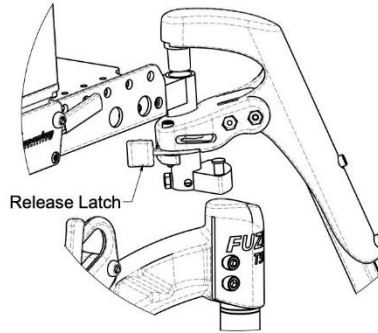

Figure 12.2: Swing-Away Front Rigging Latch Installation and Removal rigging
1. Orient the footrest at approximately 45° outboard of the wheelchair as shown in Figure 12.2
2. To release the locking mechanism, push the release lever as show in Figure 12.2